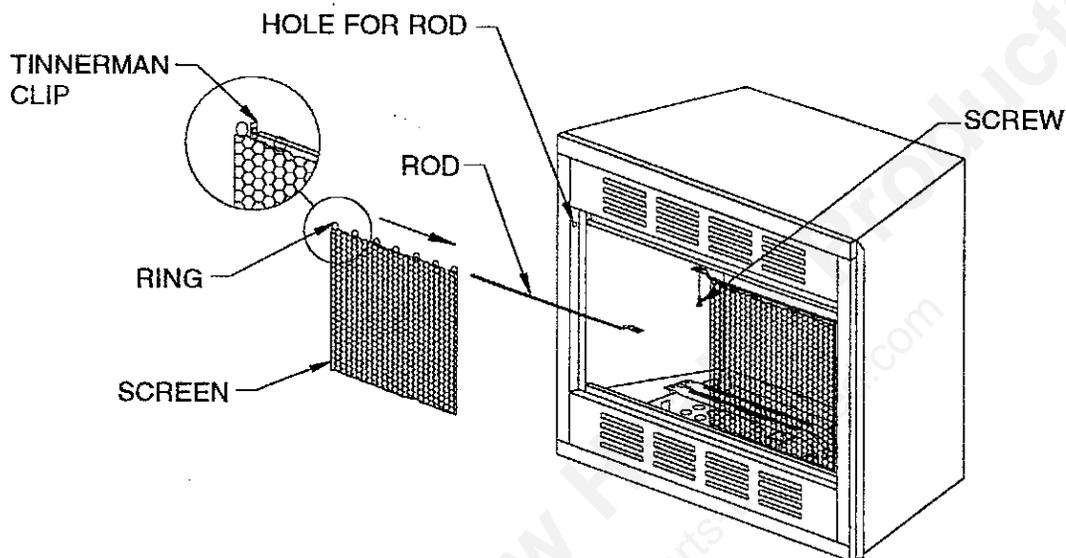

Figure 5 - Installing Fireplace Screen
1. Insert each rod through the rings located at the top of the screen. **NOTE:** Before placing the last ring over the rod, slide the tinnerman clip (included in the parts bag) onto the rod and then slide the last ring over the rod. (See Figure 5)
3. Now insert the left screen and rod as above. (Figure 5)